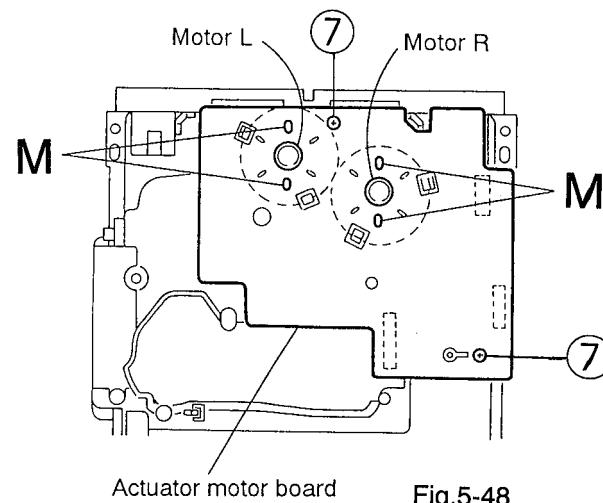

Fig.5-48
(See Figs. 5-48 and 5-49)
- Absorb the four soldered positions "M" of the right and left motors with a soldering absorber (See Fig. 5-48).
- Remove the two screws ⑦ retaining the actuator motor board (See Fig. 5-48).